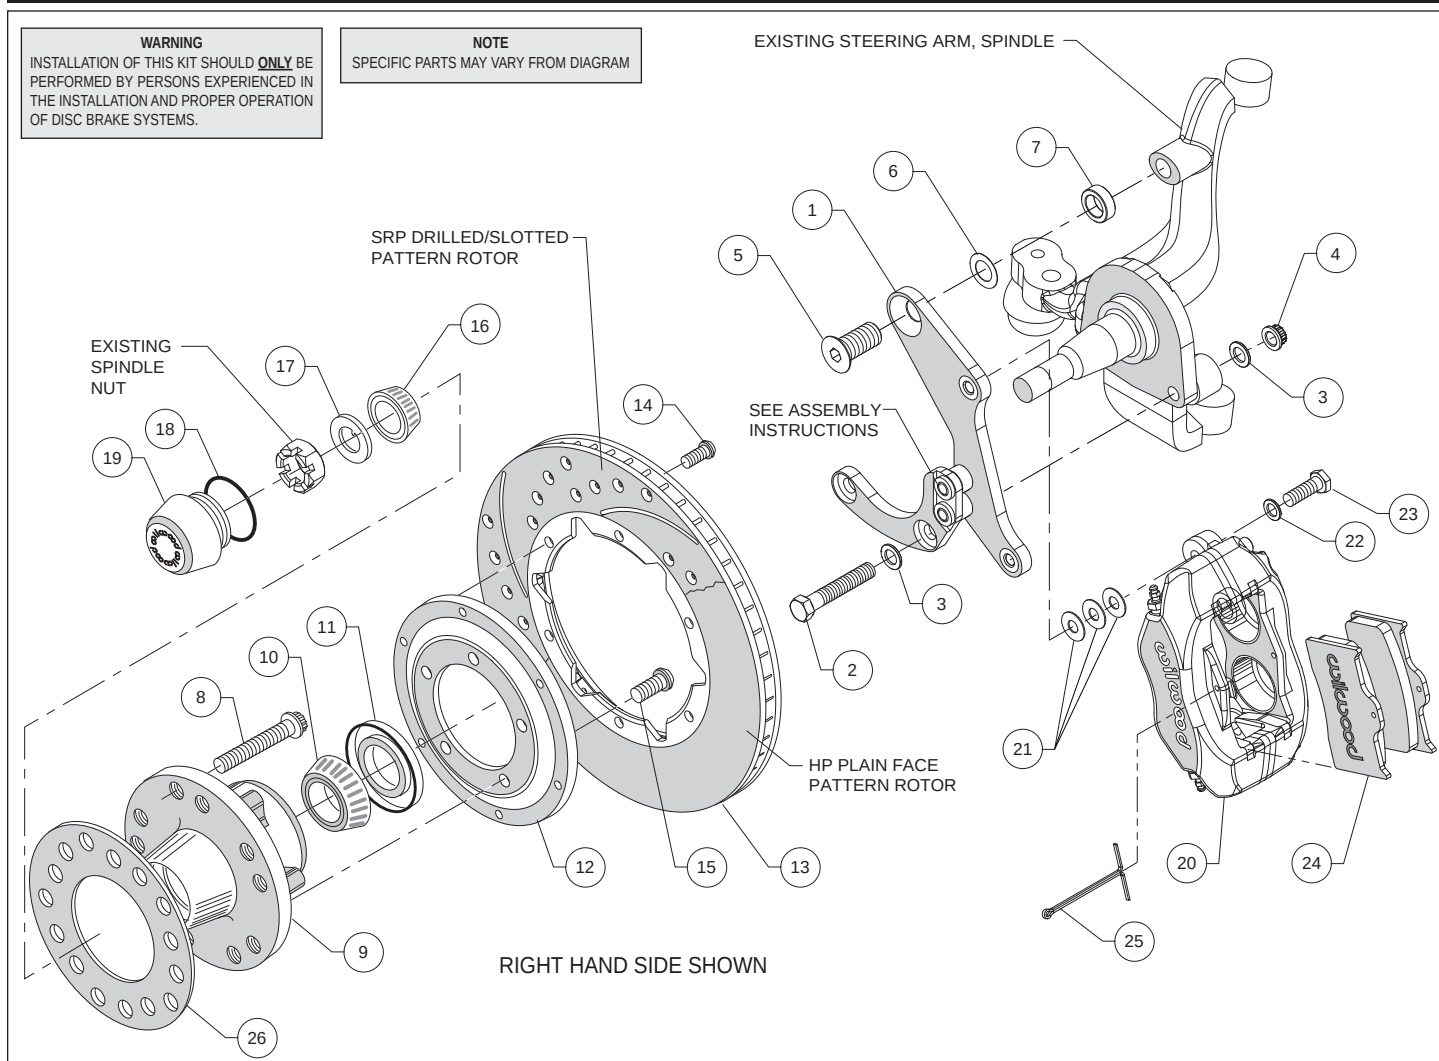
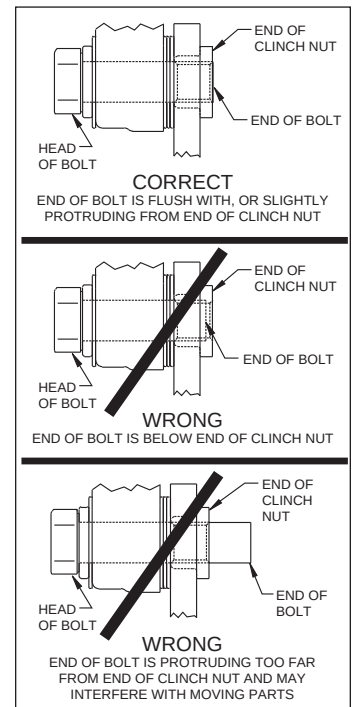

Figure 1. Typical Installation Configuration
Figure 3. Clinch Nut Engagement Diagram
Assembly Instructions (numbers in parenthesis refer to the parts list and Figure 1 on the preceding pages): **CAUTION:** All mounting bolts must fully engage clinch nuts. Be sure to check that all bolts are either flush or protruding through flanged side of clinch nut after shimming, Figure 3.
•The caliper mounting bracket (1) has been assembled at the factory for alignment purposes. Loosen the two bolts that secure the brackets together so that the bolts are hand tight only. This will enable the bracket assembly to be adjusted to accommodate various spindle tolerances during assembly. Align bracket with the two lower holes on the spindle face and attach using bolts (2) and washers (3), and secure using nuts (4), as shown in Figure 1 and Photo 1. Install bolt (5) through top of bracket while placing spacer (7) and shim (6) between bracket and spindle, Figure 1. Initially use one .015" thick shim (6) on the top bolt between the bracket and upright. Temporarily tighten the mounting bolts. Ensure that the flanged heads of the clinch nuts in the bracket are facing outboard, Photo 1. **NOTE:** The bracket must fit squarely against the mounting points on the spindle. Inspect for interference from casting irregularities, machining ridges, burrs, etc.
•Check that the bracket is aligned parallel to the rotor by assembling and installing the hub/rotor per the steps below. If not, adjust by adding or subtracting shims (6) between the spacer (7) and bracket, Figure 1.
- Install the grease seal (11) by pressing into the backside of the hub (9), flush with the end of the hub, Photo 3.
- Orient the rotor (13) and the rotor adapter (12) as shown in Figure 1 and Photo 4. Attach the rotor to the adapter using bolts (14). Using an alternating sequence, apply red *Loctite*® 271 to the threads, and torque to 25 ft-lb.
- Mount the adapter/rotor assembly (12/13) to the hub (9) using bolts (15), as shown in Figure 1 and Photo 5. Using an alternating sequence, apply red *Loctite*® 271 to the threads, and torque to 55 ft-lb.
- Pack the small outer bearing cone (16) with high temperature disc brake bearing grease and install into hub (9). Slide the hub/rotor assembly onto the spindle. Secure using spindle washer (17) and OEM spindle nut, Photo 6. Adjust bearings per OEM specifications. Install saved OEM nut lock (if any) and a new cotter pin (not supplied).
- Screw dust cap (19) into hub (9), Photo 7. Friction created by the o-ring (18) on the dust cap keeps it from unscrewing. **NOTE:** The O.D. of the existing OEM spindle washer may be larger than the I.D. of the dust cap not allowing it to seat against the hub face. Therefore, use the spindle washer (17) supplied with the kit instead of the OEM washer.
- NOTE:** Please reference the caution statement at the beginning of the assembly instructions. Mount the caliper (20) onto the caliper mounting bracket (1) using bolts (23) and washers (22), as shown in Figure 1. Initially place three .035" thick shims (21) on each bolt between the caliper and the bracket, Photo 8. Temporarily tighten the mounting bolts and view the rotor (13) through the top opening of the caliper. The rotor should be centered in the caliper, Photo 9. If not, adjust by adding or subtracting shims between the bracket and the caliper. Always use the same amount of shims on each of the two mounting bolts. **NOTE:** The end of each bolt must be flush with or slightly protruding from the head of the clinch nut, as shown in Figure 3. If necessary place spare shims between washer (22) and caliper mounting ear to achieve the proper clinch nut engagement. Once the caliper alignment and clinch nut engagement are correct, remove the bolts one at a time, apply red *Loctite*® 271 to bolt threads, and torque to 40 ft-lb.
- Install the disc brake pads (24) into the caliper, with the friction material facing the rotor (13), and secure in place using cotter pin (25), Photo 10.
- Temporarily install wheel and torque lug nuts to manufacturer's specification. Ensure that the wheel rotates freely without any interference. **NOTE:** Wheel spacer (item 26) MUST be used if any wheel contact surfaces overhang the outside diameter of the hub face. See warning on page 3.